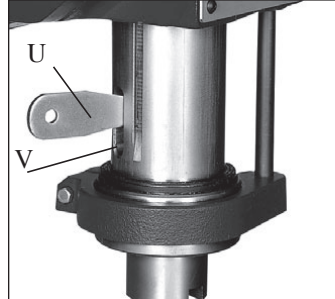

Fig. 10
- 1.Place the drift key (U-fig.10) into the aperture (V-fig.10) of the quill and tap the end of the drift key (U-fig. 10) with a hammer to tap until the bit or chuck arbor falls down.